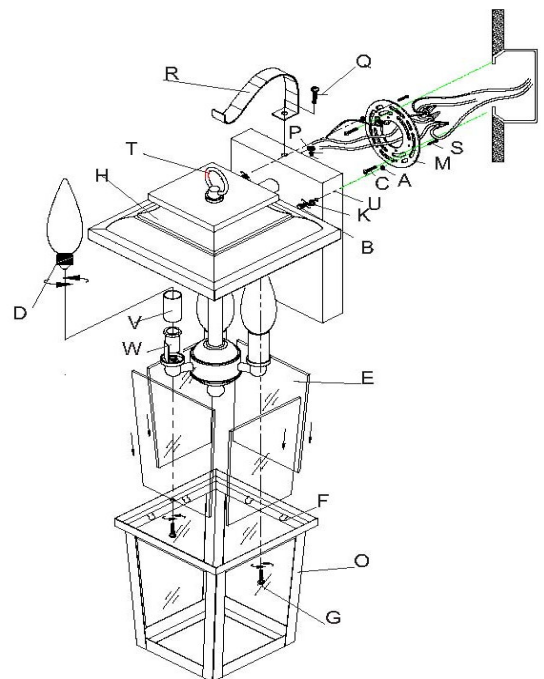

Fig. 2
### CONNECTING ELECTRICAL (Fig.2)
5. Connect the electrical wires as shown in (Fig.2), making sure that all wire connectors are secured. If your outlet has a ground wire (green or bare copper), connect the fixture ground wire to it. Otherwise, connect the fixture ground wire directly to the mounting plate using the green screw provided.